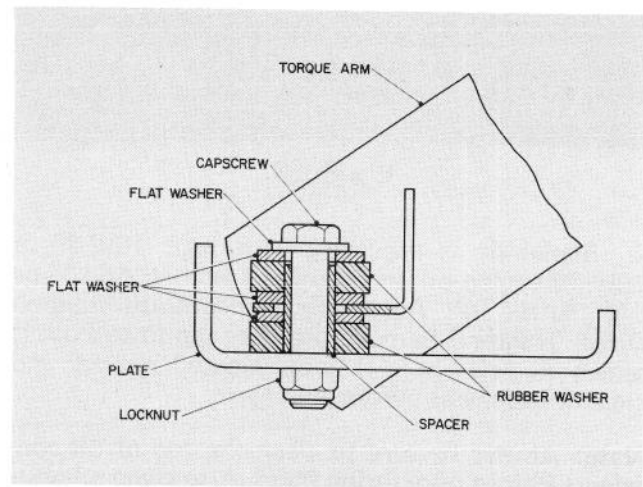

Figure 59
8. Secure the end of the torque arm to the torque arm plate. Refer to Fig. 59 for proper assembly of parts.